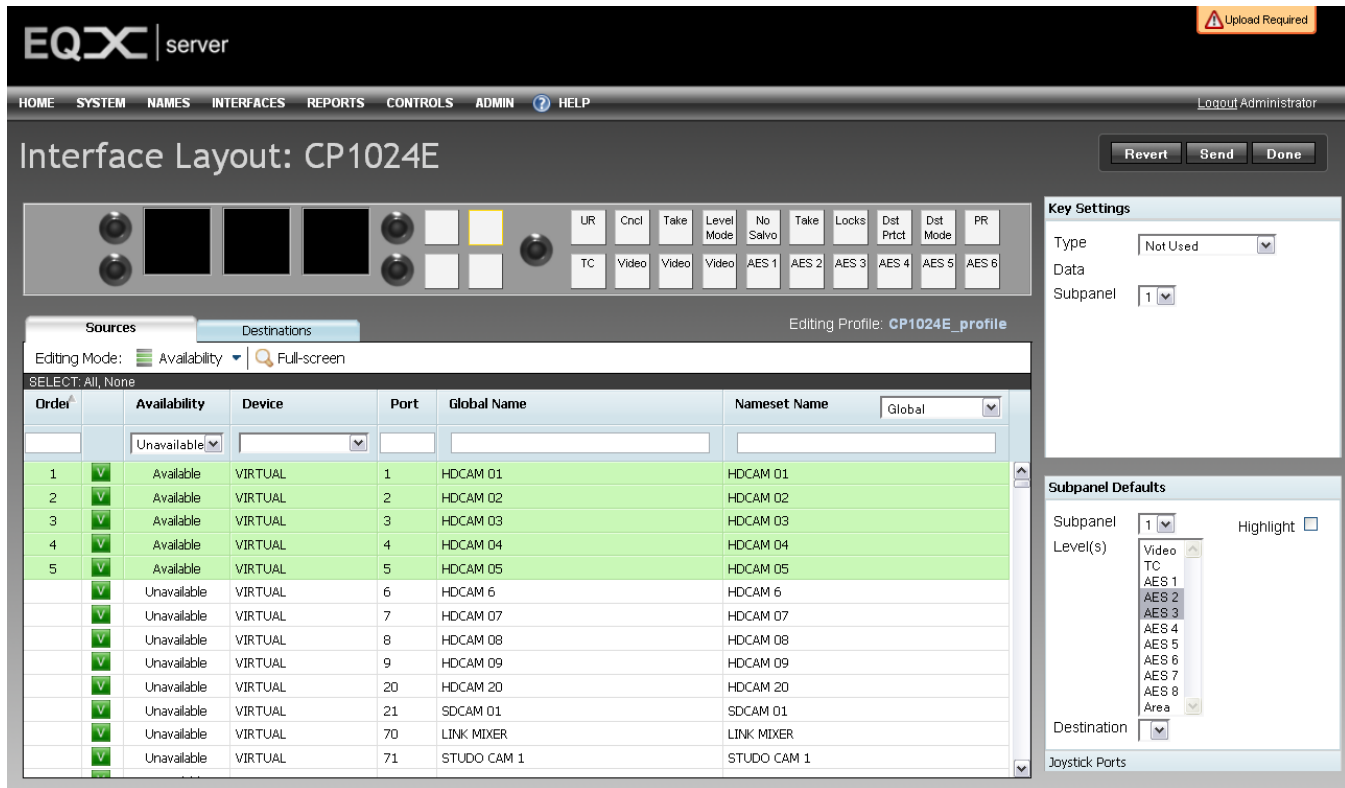

Figure 5-7: Populated Control Panel Interface
- A fully populated interface will look similar to the configuration shown in Figure 5-7.